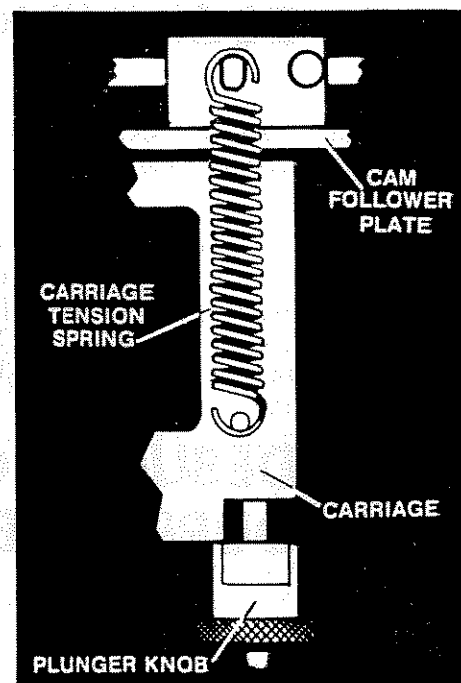

FIG. 12
3. Pull the plunger knob out and rotate it 1/4 turn in either direction to lock the plunger away from the cam follower plate. Remove the carriage tension spring to free the carriage. (See Fig. 12) Slide
After the spacing has been checked or adjusted, remove the test keys from the vises. Unlock the plunger. Slide the carriage to the left until plunger drops into the cam follower plate. Return carriage tension spring to the proper post. (See Fig. 12)